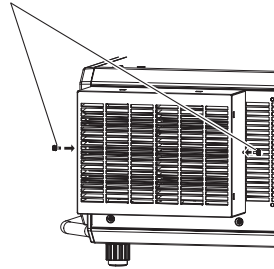

Fig. 2
**2) Secure the long life filter cover. (Fig. 2)**